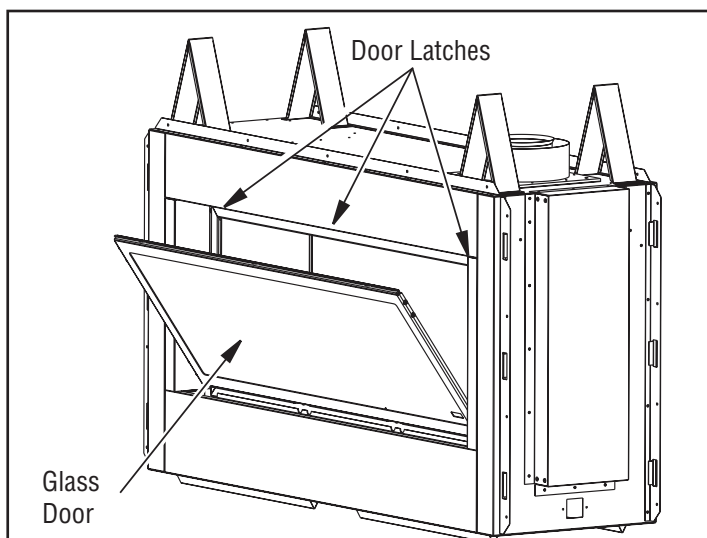

Figure 35 - Removing/Replace Glass Door
1. Position door frame in front of firebox opening tilting top of door about 45° toward you. Insert bottom flange of glass door into the retaining channel at the bottom of firebox (see Figure 35). Make sure door is center with firebox opening.
4. Tilt open glass door 45° from the top of firebox and lift up to release door from retaining channel (see Figure 35).